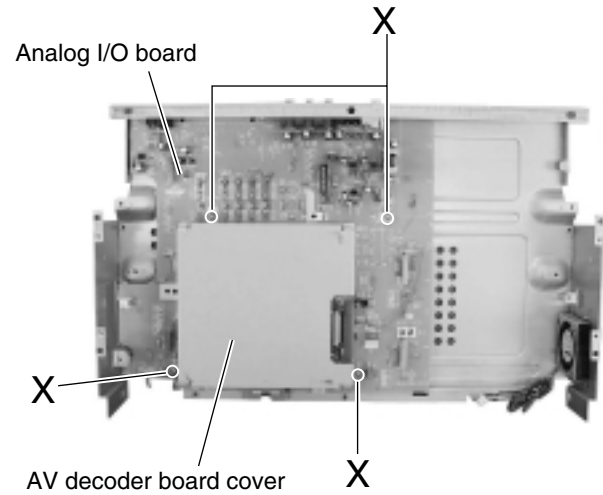

Fig.28
■ Removing the AV decoder board and analog input/output board (See Figs.28 to 30)
1. Remove the three screws (X) that retain the AV decoder board cover, from the top of the unit and remove the screw (X) that retains the analog input/output board.